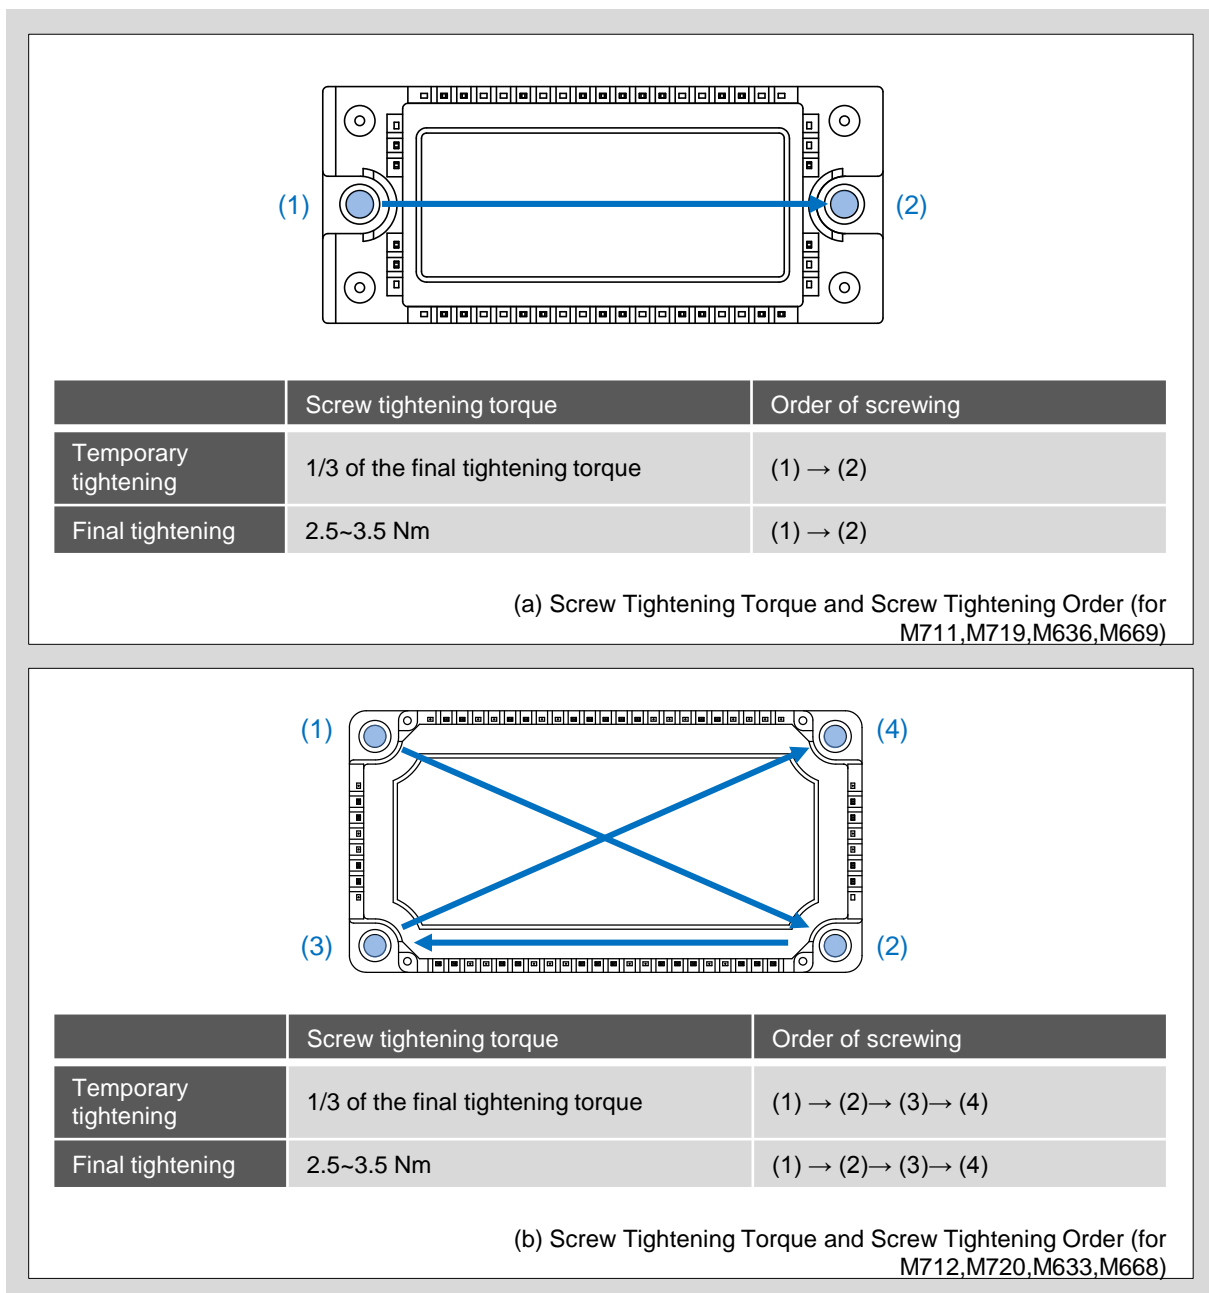

Fig. 3 Screw Tightening Torque and Screw Tightening Sequence
2. To secure the module with equal force, first perform temporary tightening with a torque of 1/3 of the final tightening torque in the order shown in Fig. 3.